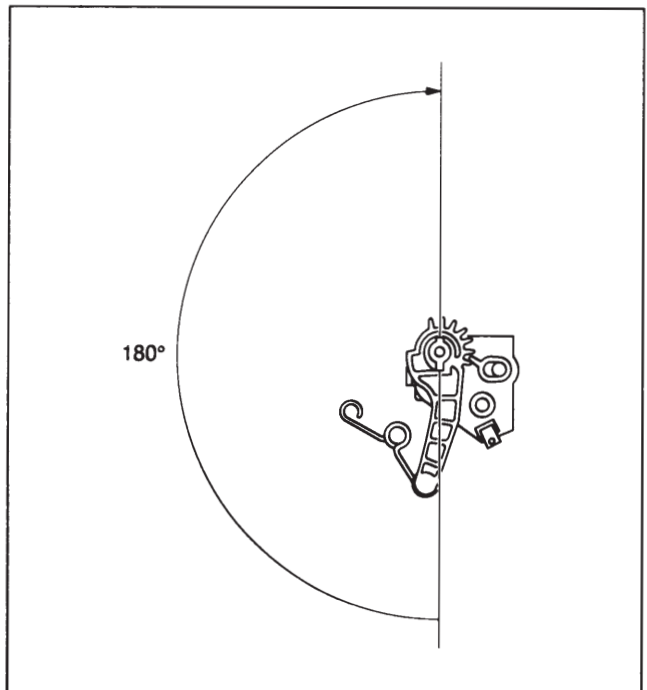
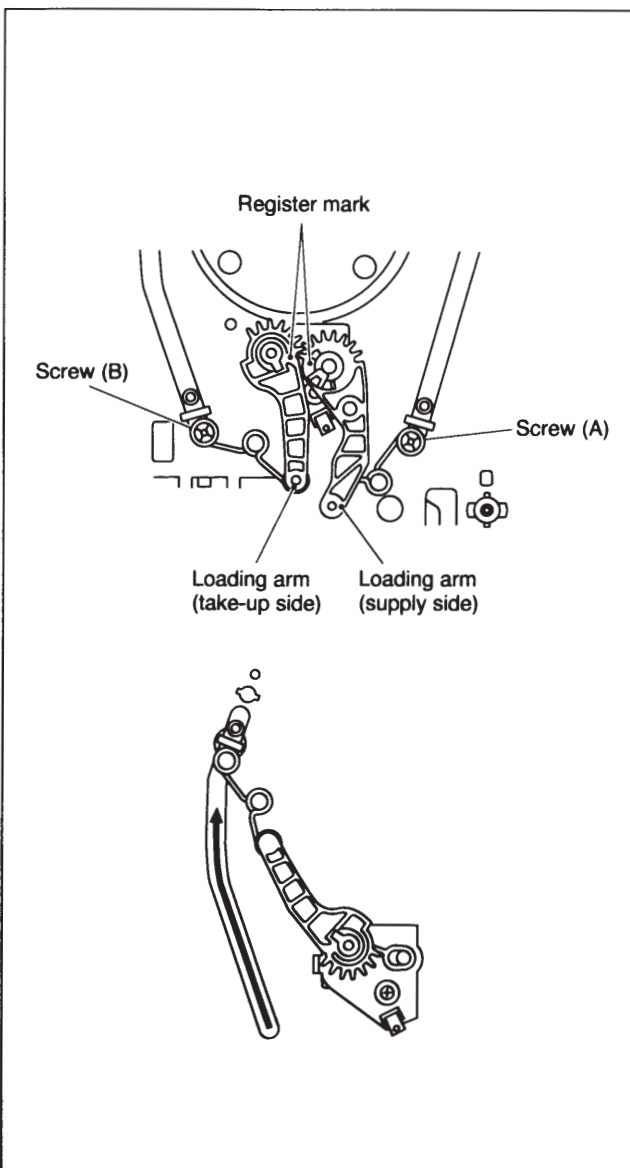

Fig. 2-2-28
Fig. 2-2-26
- (1) Remove the loading arm (on the supply side) by loosening screw (A) in Fig.2-2-26.
- (2) Remove screw (B) in Fig.2-2-26 and slide the pole base in the loading direction with the spring held on the pole base (on the take-up side). (See Fig.2-2-26)
- (1) Install the loading arm (on the take-up side) as indicated in Fig.2-2-28 and turn it clockwise through 180 degrees so that the loading arm reaches the bottom of the loading arm gear shaft.
- (2) Then turn the loading arm (on the take-up side) counterclockwise through 180 degrees. Hang the spring on the pole base and tighten the screw.
- (3) Install the loading arm (on the supply side) so that the register mark of the loading arm (on the take-up side) is in alignment with the register mark of the loading arm (on the supply side). Then hang the spring on the pole base and tighten the screw. (See Fig.2-2-26).